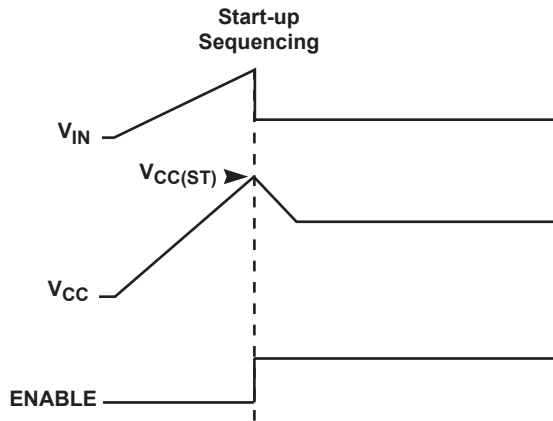

Figure 9.6 : Start-up Sequencing Diagram
control logic, shown by Figure 9.6. When the control logic is enabled, the controller enters the configuration mode, where dimmer type and AC line period are measured. During the configuration mode, which is implemented during the first 3 half AC cycles, OUTPUT(TR) is kept high to determine the dimmer type and measure the AC line period. After the configuration mode the constant current stage is enabled and the output voltage starts to ramp up. When the output voltage is above the forward voltage of the LED, the controller begins to operate in constant output current mode.